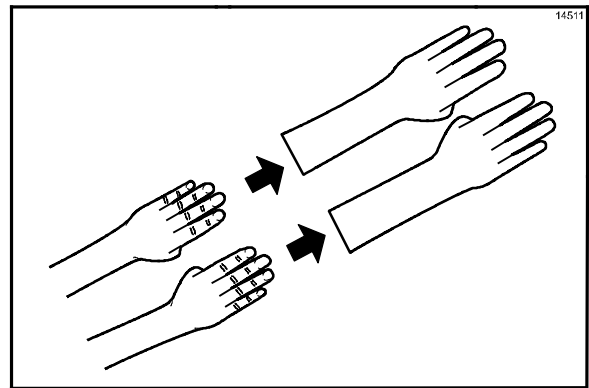

Figure 39
6. Put on heat-resistant gloves. (See Figure 39.)